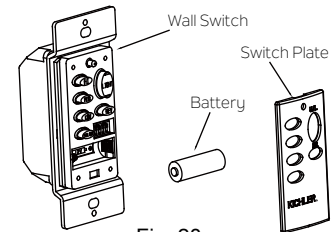

Fig. 28
**Step 1.** Use a small flat screw driver and gently pry it apart from the top or bottom of the switch plate. Install 1, 12volt battery included with wall mount Control system and make sure it is seated correctly. Replace the switch plate. (Fig. 28)
**Step 2.** Test the transmitter by pressing and releasing ANY button. A RED Light should illuminate, if not, check to make sure the battery is inserted and seated correctly. (Fig. 28)